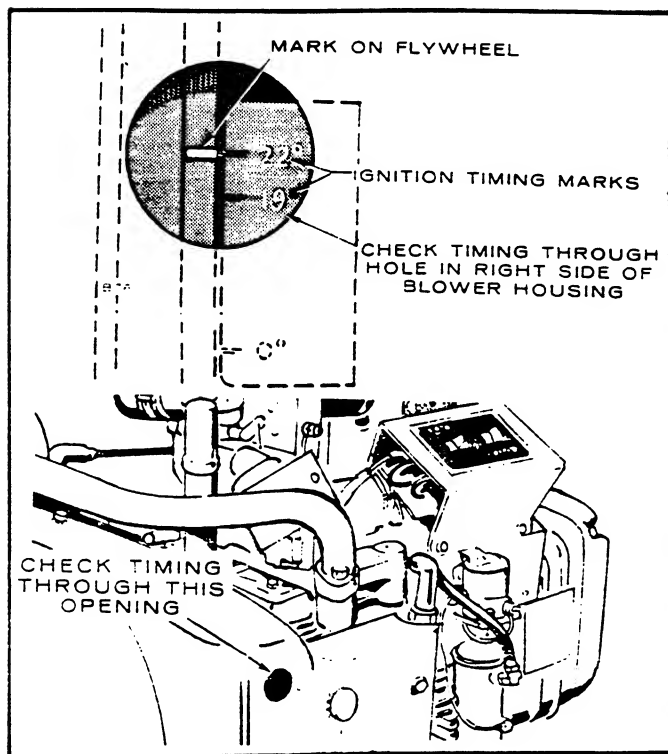

FIGURE 12. TIMING ACCESS HOLE (VACU-FLO)
Mobile and other Vacu-Flo equipped engine timing marks are observed through a plugged hole in the engine shroud, Figure 12.
2. Remove the plug from timing hole, Figure 12.